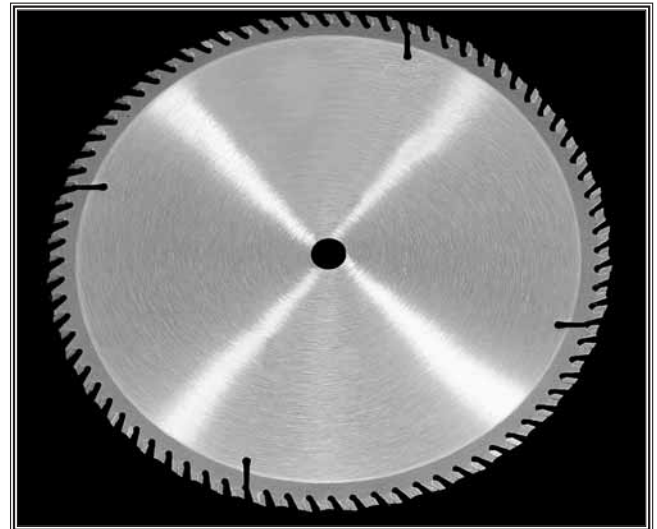

Figure 61 Plywood blade.
- **Figure 61** shows an example of a plywood blade. Plywood blades have a large number of teeth, have a thin kerf and create exceptionally smooth cuts. As the name implies, these types of blades are excellent for fine plywood and also for cutting bevels, rabbets or compound miters. The drawback to this type of blade is the great amount of heat produced from the many teeth. These blades should not be used for heavy ripping or cutting thick stock.